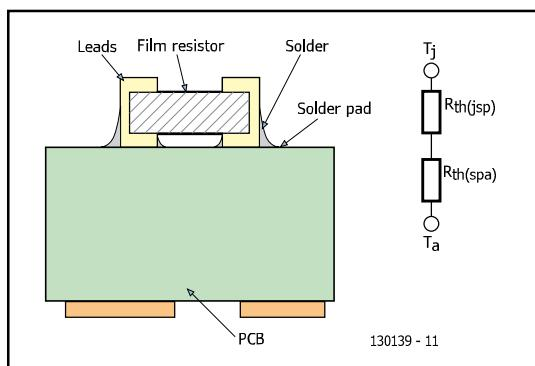

Figure 1.
Referring to **Figure 1**, resistor manufacturers need only take care of $R_{\text{th}(\text{jsp})}$, but must carefully consider their choice of material, the resistor pattern, terminations, etc. Manufacturers who also improve thermal stability can offer resistors that can withstand higher and higher temperatures without undergoing significant drifts. This removes limitations on T_j .
- Temperature versus drift was plotted against time and appears in **Figure 1**.